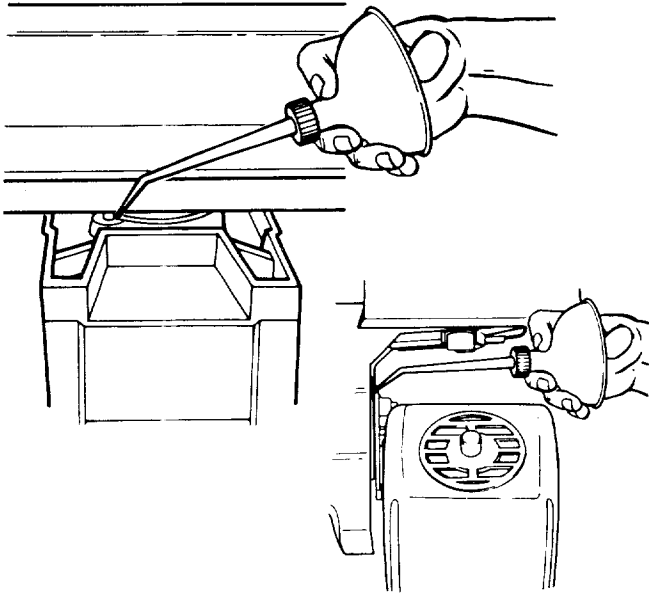

Fig. 140 - Swivel and Bevel Index Pins
- Apply a few drops of oil along the *swivel index pin* and the *bevel index pin* only if the pins have a tendency to stick. Swivel to in-rip or out-rip for easy access to the *swivel index pin*. Bevel to 45° and *bevel index pin* can be easily accessed behind the yoke as illustrated. (Figure 140)